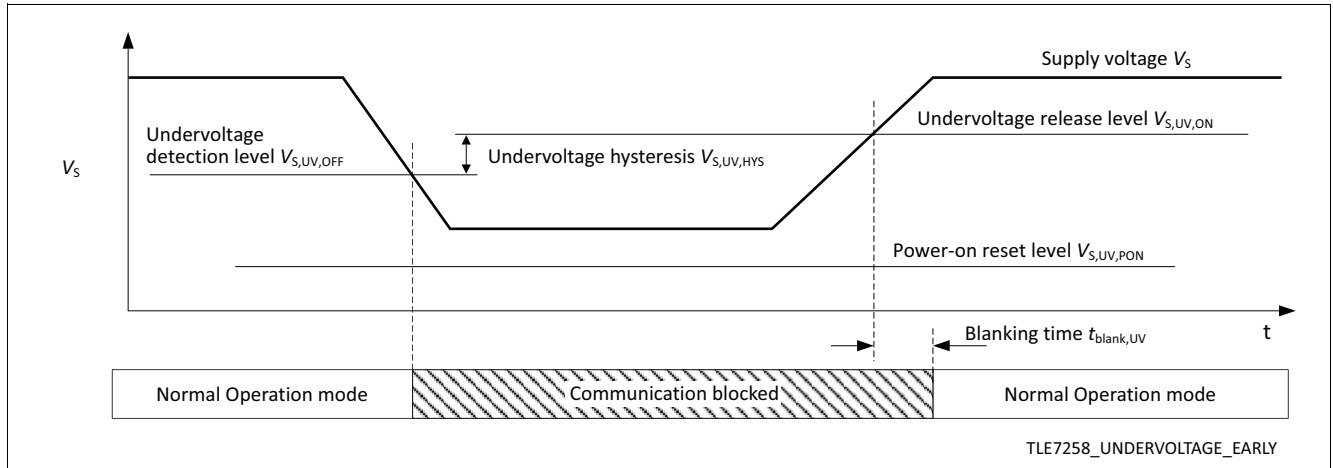

Figure 11 Early undervoltage detection
- In Normal Operation mode the TLE7258 blocks the communication between the LIN bus and the microcontroller when detecting undervoltage events. However, no mode change will occur. After V_S rises above the undervoltage release level $V_{S,UV,REL}$, the bus communication interface will be released when the signal on the TxD input goes "high". See Figure 11.